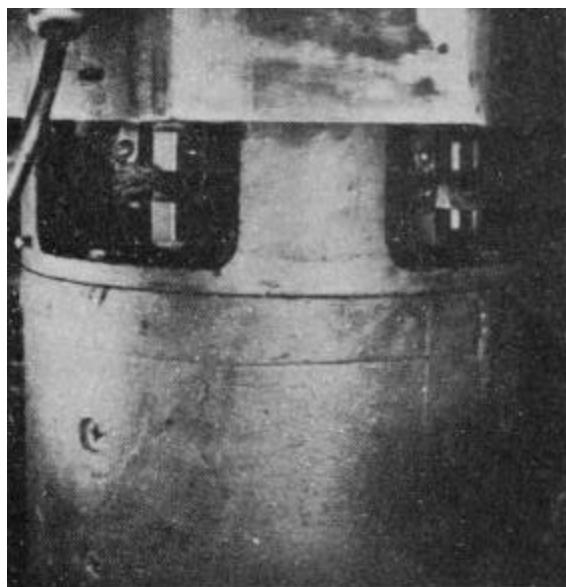

Figure 5-119
2. Remove pump motor cover screen - (4) 1/4-20 screws.
3. Remove center louvered cover - (4) 1/4-20 screws.
5. Loosen brush cover screw and slide cover off of mounting pins. Brush rigging is now exposed (Fig. 5-119).